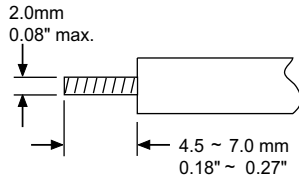

Fig. 4.2 Lead Termination
- * The "stripped" leads as specified in Figure 4.2 below are used for power and sensor connections.